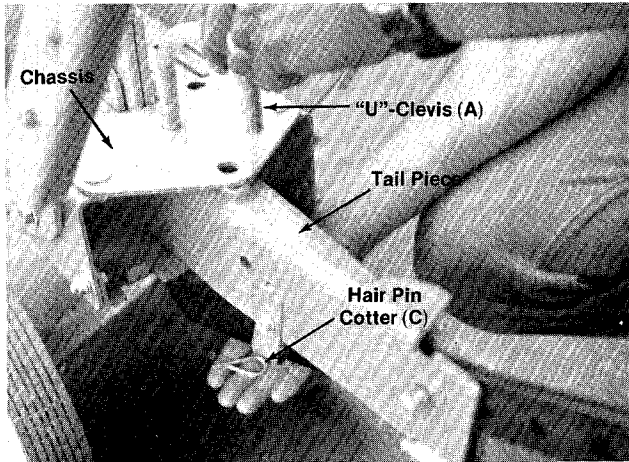

FIGURE 4.
Slide the tail piece into the chassis and secure with "U" clevis (A) and spring pin (K). See figure 4.